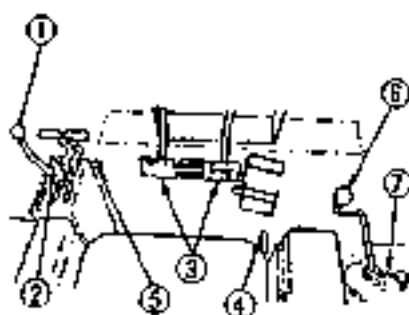

Fig. 4-1
4.1 Check before starting(Fig.4-1)